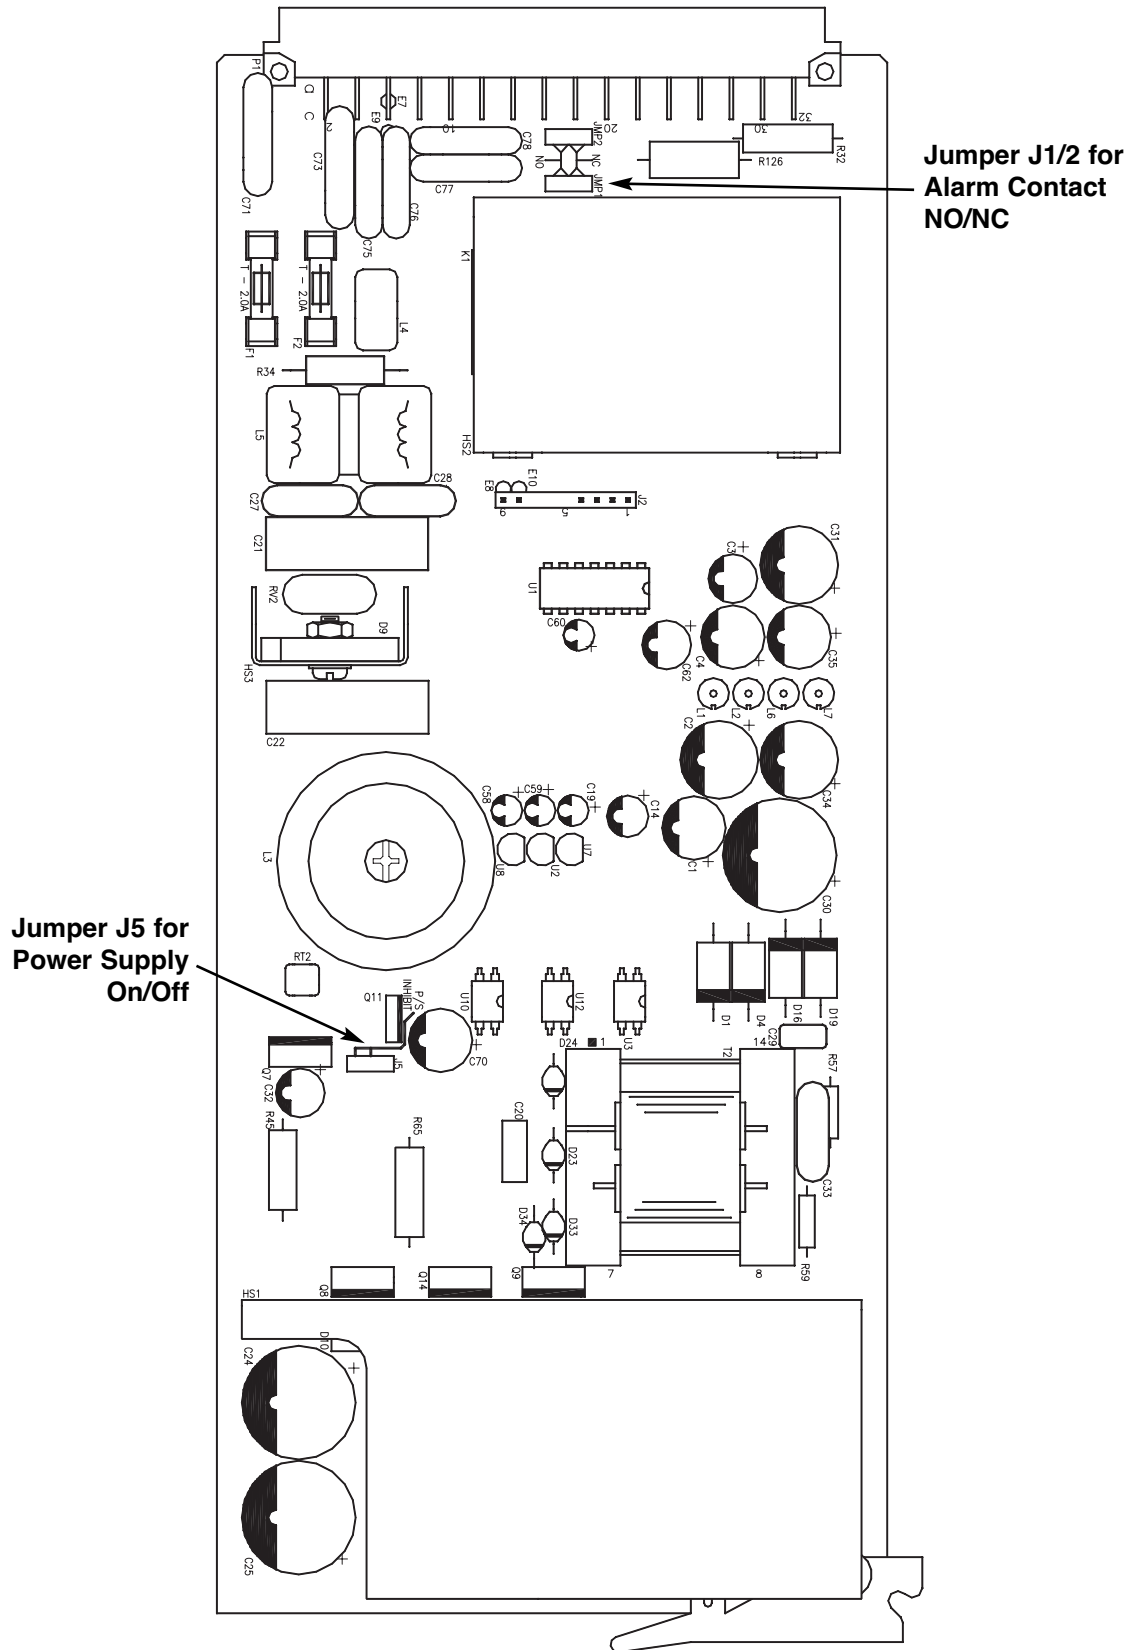

Figure 3a. Power Supply Component & Jumper Locations
The Power Supply Module has an alarm relay to indicate failure of the module. This is a “fail-safe” alarm and is therefore energized if the module is functional. Jumpers JMP1/JMP2 allow setting contact output as normally open (NO) or normally closed (NC) (Figures 3a & 3b). Jumper, JMP3 (PWR ON/PWR OFF), allows the power supply to be placed in the chassis and remain in the off state. For normal operation, the jumper should be in the “Pwr On” position. Put this jumper in the “Pwr Off” position if it is desired to place the power supply in the chassis and have the unit remain powered down. JMP1/2, on the daughterboard, lets you choose between 200mA & 20mA, for interfacing with various relays.